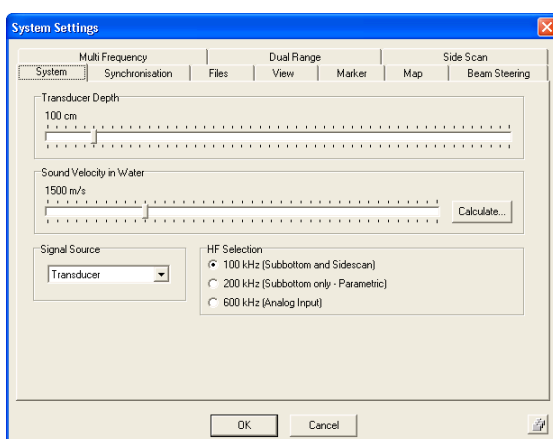

Figure 3: Set the sound velocity
- **Sound Velocity in Water:** The measured or estimated sound speed is used for all depth calculations and has to be set properly (Figure 3). A value of 1500 m/s is adequate.